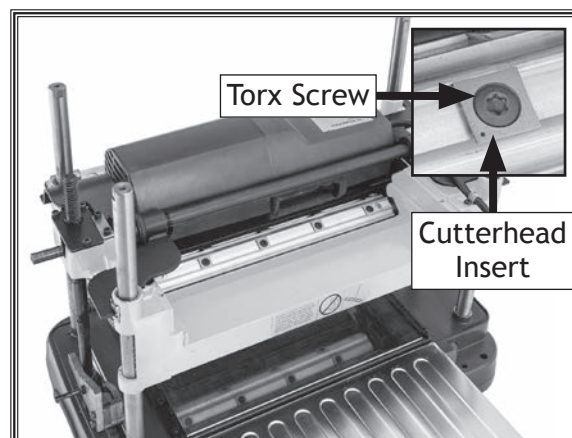

Figure 21. Dust hood removed to reveal cutterhead inserts and Torx screws.
3. Remove dust hood to expose cutterhead (see **Figure 21**).
5. Remove any sawdust or debris from head of insert, Torx screw, and surrounding area (see **Figure 21**).